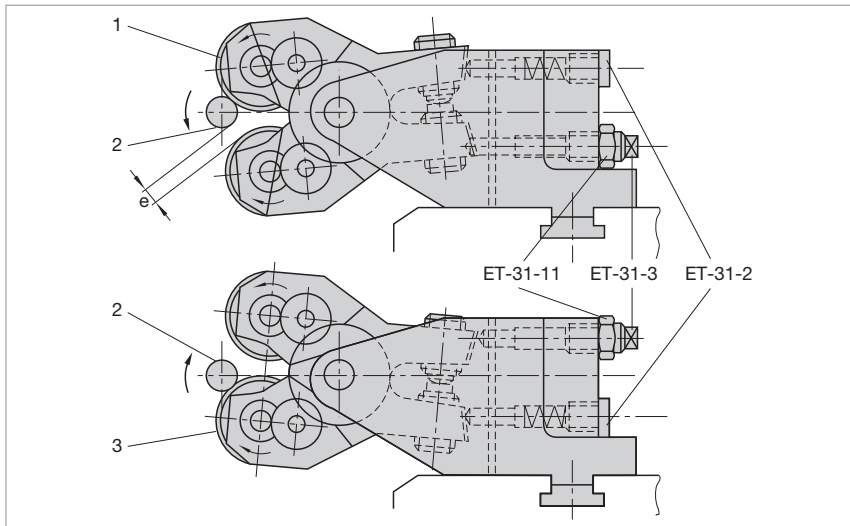

Figure 15: Adjusting the pendulum clearance with a spring-loaded bolt
The spring-loaded bolt (ET-31-2) can be inserted in the rolling head holder at two positions (see Figure 15). If the upper thread roll (1) rotates in the same direction as the workpiece (2), the spring-loaded bolt (ET-31-2) also has to be inserted in the holder at the top (and accordingly).